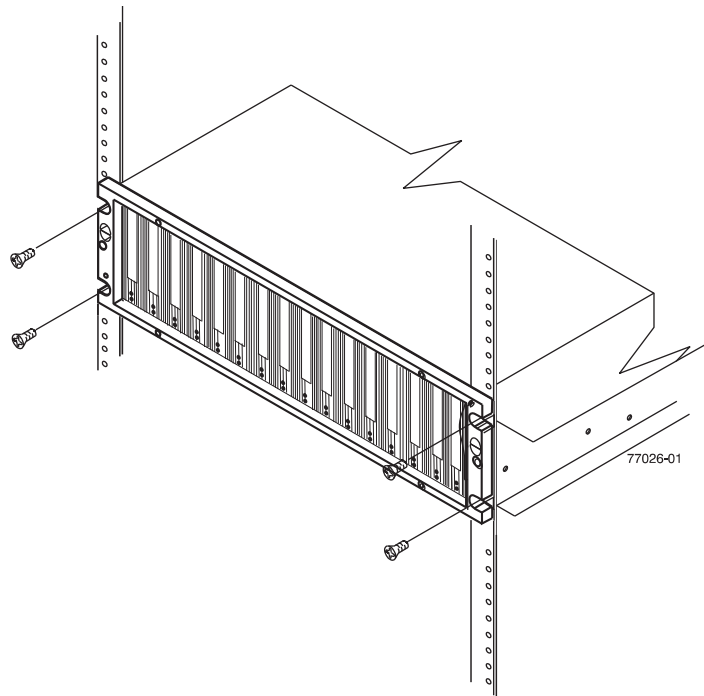

Figure 13. Securing the storage expansion enclosure to the rack
4. Secure the storage expansion enclosure. Figure 13 on page 28 shows how to secure the storage expansion enclosure to the rack.
- c. Secure the front of the storage expansion enclosure using the four M5 screws as shown in Figure 13 on page 28.